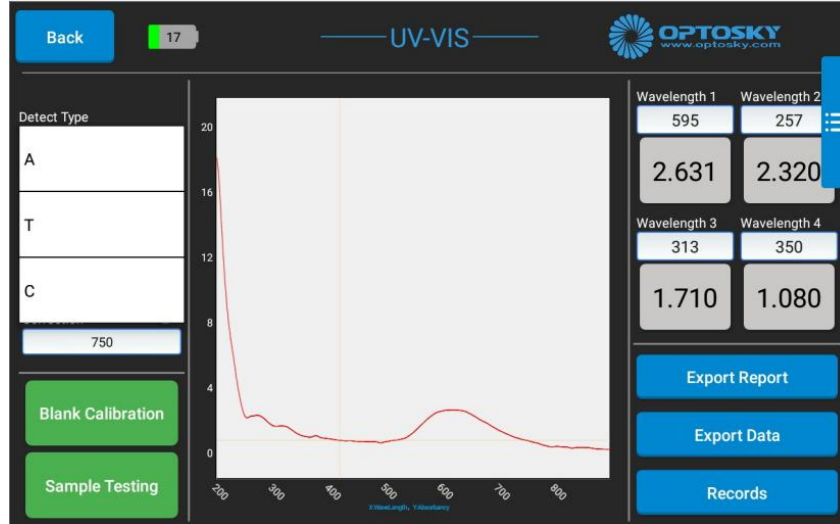

Figure 14: Full-Wavelength Detection Interface
1. Open the UV-VIS module on the main interface and enter the detection interface, as shown in Figure 14.